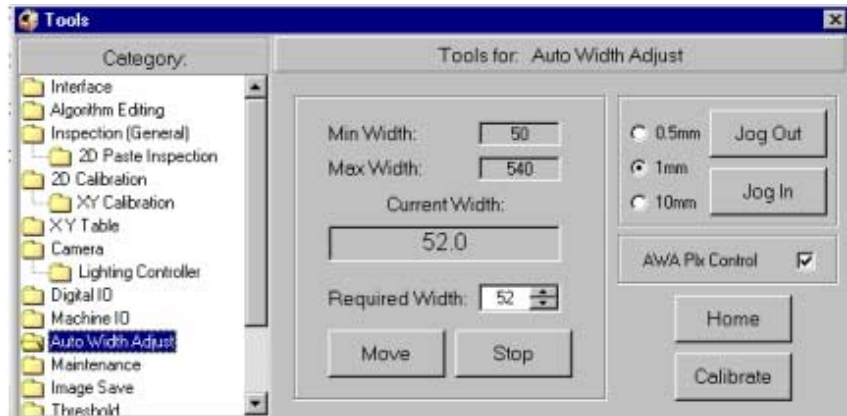

Figure 5-3 Auto Width Adjust window
- 6 In the Auto Width Adjust window (Figure 5-3), click the **Jog Out** and **Jog In** buttons to adjust the distance between the conveyor rails.